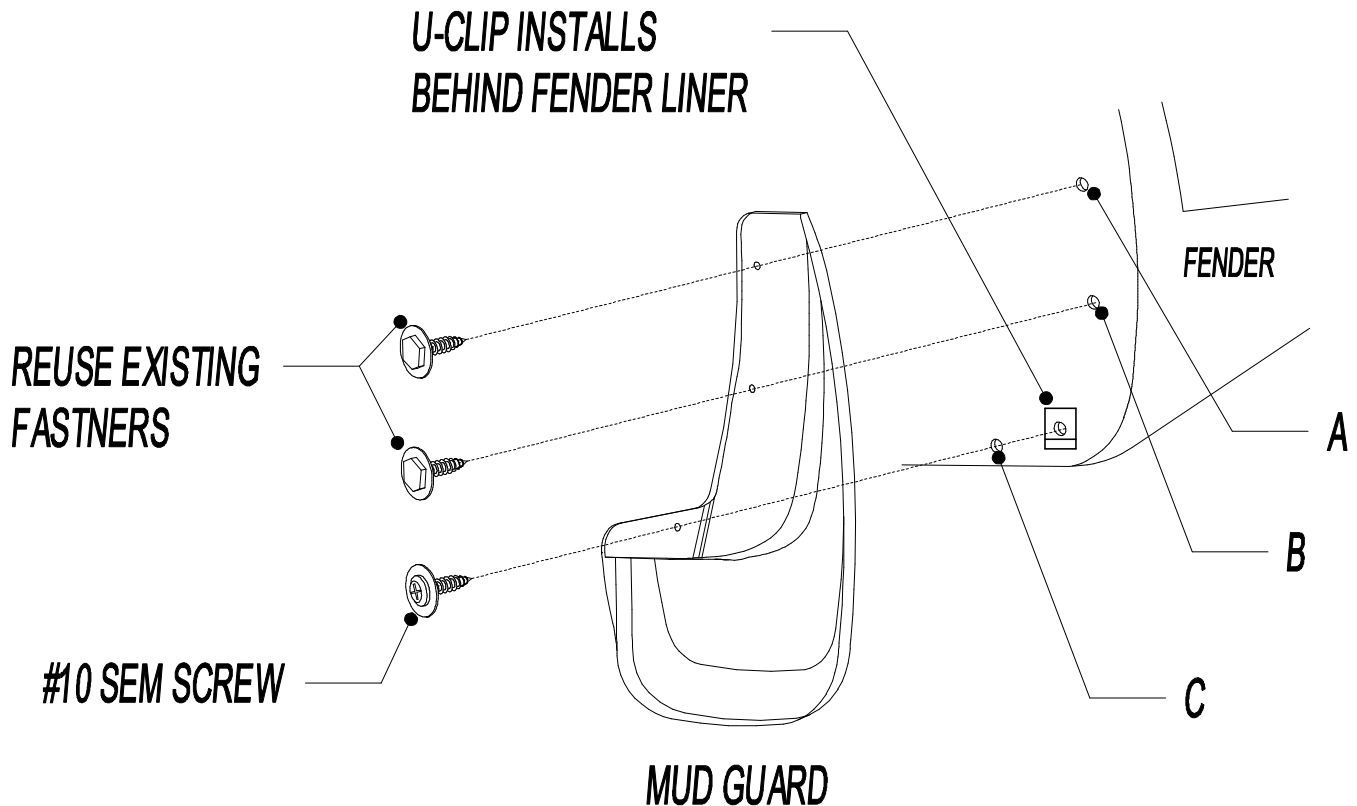

Figure 1
1. Remove the existing fasteners from locations A, B, and C (Figure 1).